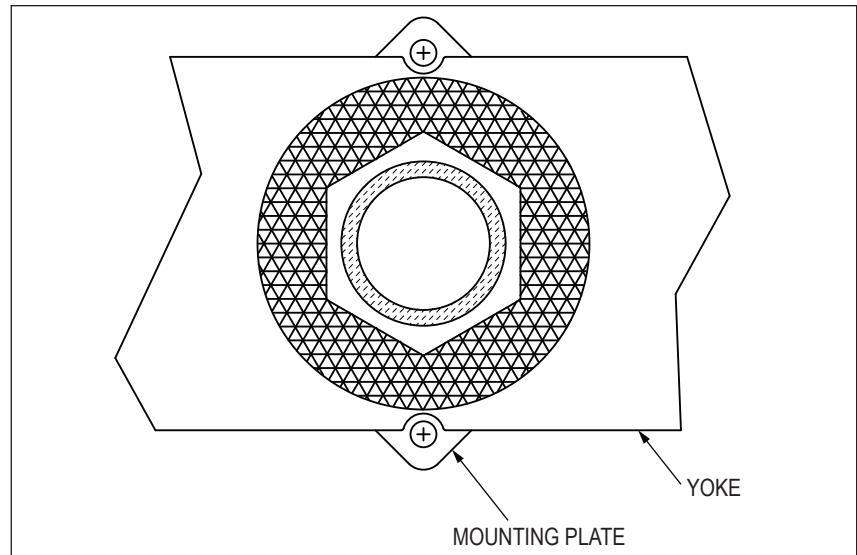

FIGURE 2 – TOP VIEW OF MOUNTING PLATE
4. Refer to Figure 2. Bolt the yoke base to the mounting surface using the first two opposing 1/4-20 flat head screws. Secure screws tightly with the provided washers and nuts on the underside of the mounting surface.
4. Refer to Figure 2 (on page 1). Bolt the yoke base to the top of the pedestal by installing the first two opposing 1/4-20 flat head screws. Secure screws tightly.